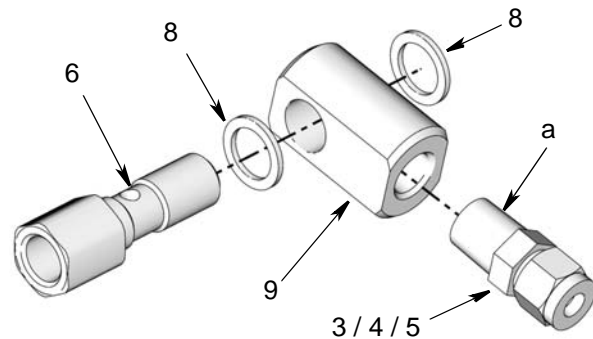

FIG. 3
5. Connect one tube fitting assembly (3/4/5) to each banjo fitting (9). Wrench tighten (FIG. 3).
6. Place one washer (8) over the end of each banjo bolt (6) (FIG. 3).
7. Install banjo bolts (6) into banjo fittings (9). Then install second washer (FIG. 3).
- Apply thread sealant to threads of tube fittings (a) (FIG. 3).
- Connect one tube fitting assembly (3/4/5) to each banjo fitting (9). Wrench tighten (FIG. 3).
8. Place one washer (8) over the end of each banjo bolt (6) (FIG. 3).
9. Install banjo bolts (6) into banjo fittings (9). Then install second washer (FIG. 3).